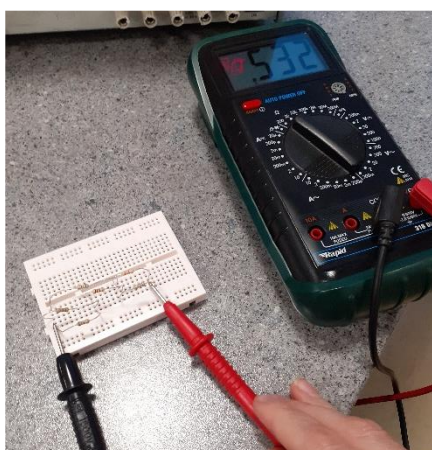

Figure 3, measuring total resistance
1. Total resistance (R_T) before connecting the power supply= 532 Ω as per figure 3. ✓